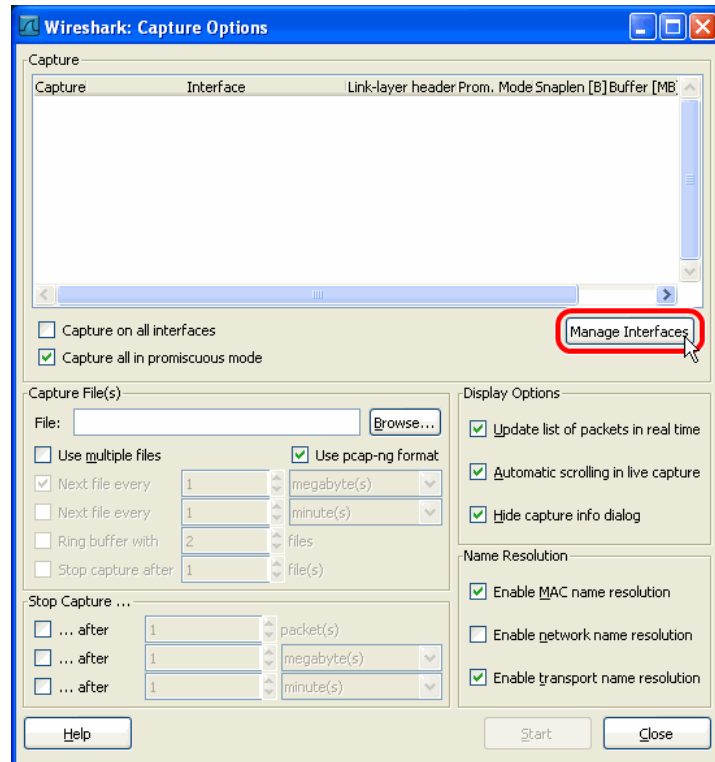

Figure 244: Wireshark Capture Options Dialog.
1. Open Wireshark and choose the menu **Capture → Options...** . This opens the **Capture Options** dialog as shown in Figure 244.